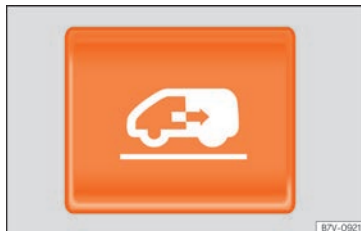

Fig. 99 On the instrument panel, on the vehicle key and on the inside lining of the sliding door: button to open and close an electric sliding door.
- Press the » Fig. 99 button on the dash panel, on the remote control key and on the interior lining of the sliding door. The sliding door opens with the rollback anti-trap function as long as the button is not pressed again.
- Press the » Fig. 99 button on the dash panel, on the remote control key and on the interior lining of the sliding door. The sliding door closes with the rollback anti-trap function as long as the button is not pressed again. As it closes, a warning sound is given.
- Press and hold the  button » » » Fig. 99.